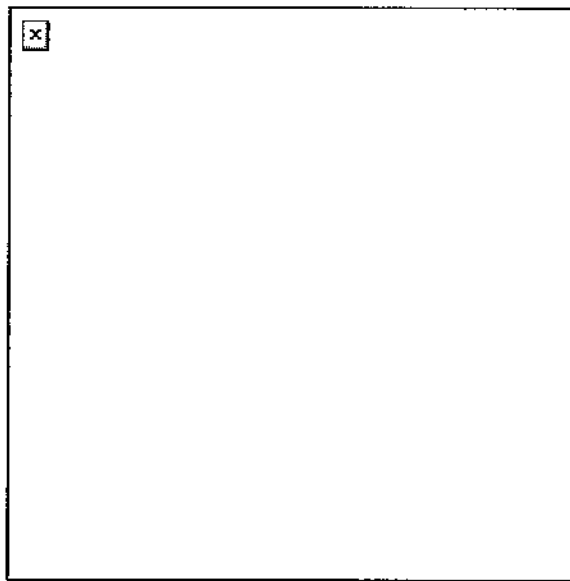

Figure 1. M249 locking handle and safety
2. Push the cocking handle forward until you hear it click into the locked position (Figure 1).
3. Push the safety from left to right for safe mode (the red band will not show) (Figure 1).